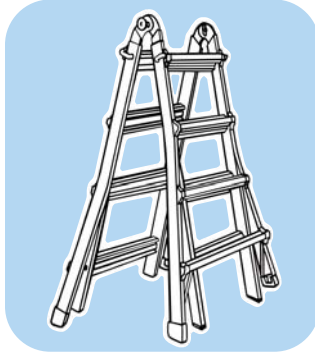

Figure A-2
7. Open the ladder to the A-frame configuration by pulling the ladder halves apart until the hinges lock into place (See figure A-2 and A-4).